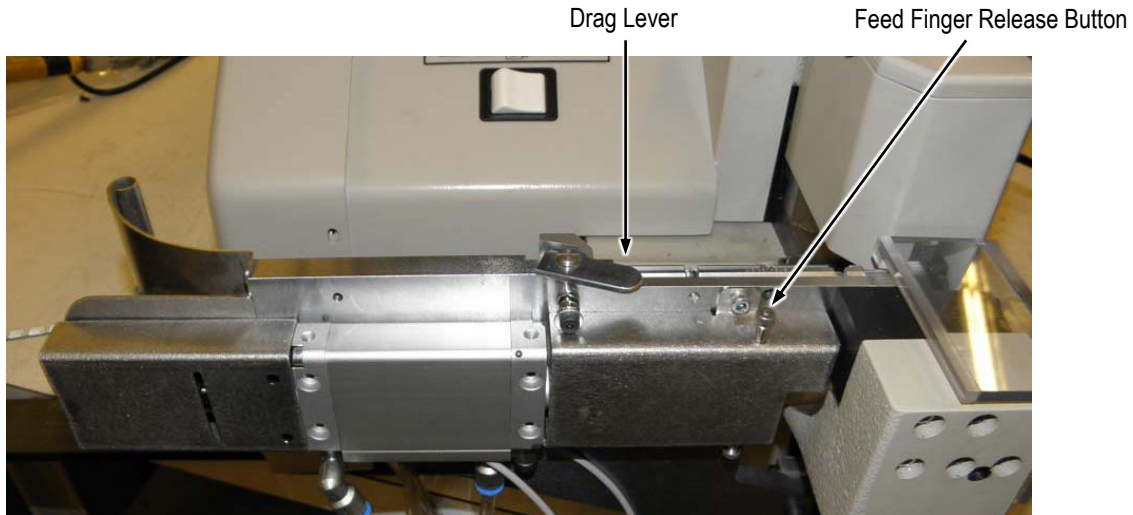

Figure 13
2. Rotate the drag lever to release and hold the drag open (back), then feed the terminal strip through the strip guide and groove in the feed plate until the end reaches the feed finger. See Figure 13.